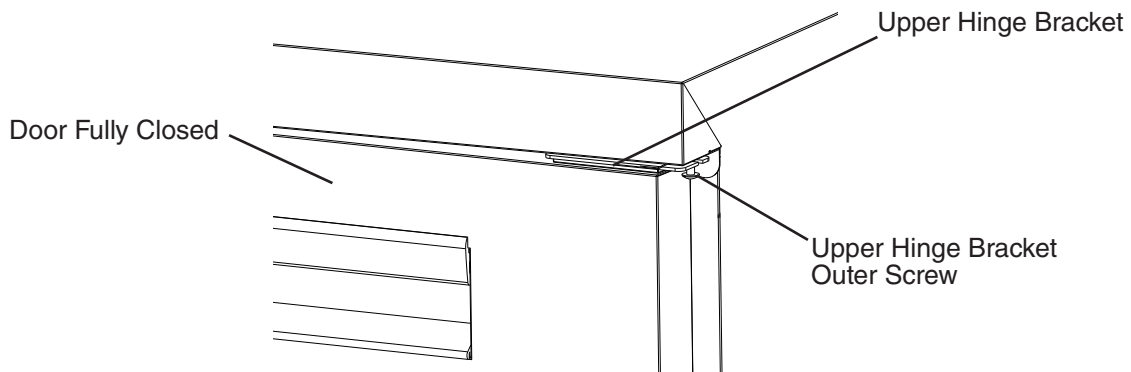

Fig. 34
- 19) Close the door and tighten the upper hinge bracket outer screw. See Fig. 34.